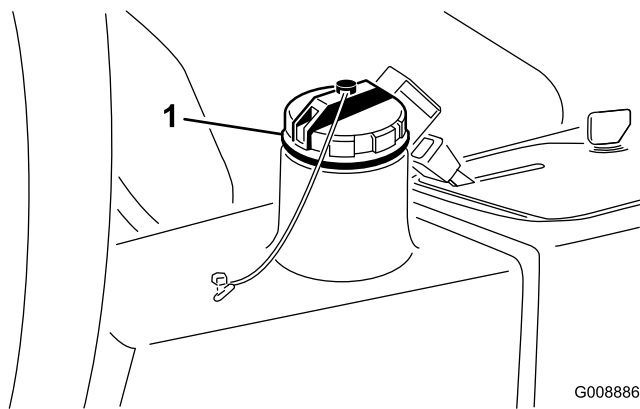

Figure 29
2. Clean the area around the filler neck and cap of the hydraulic tank (Figure 29). Remove the cap.